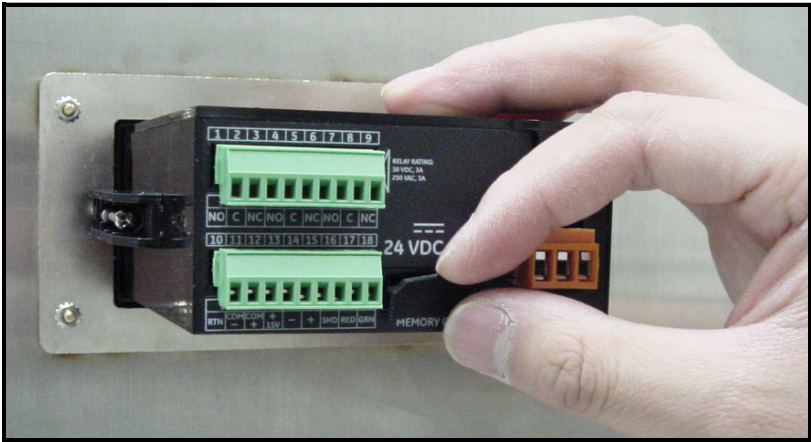
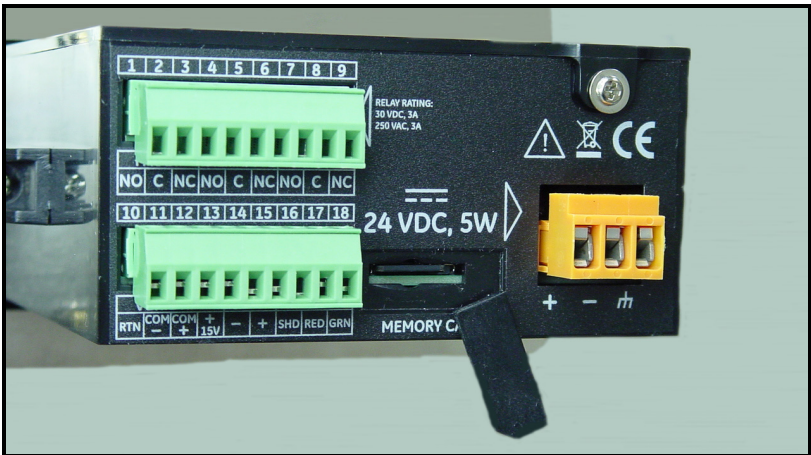

Figure 51: Pulling the Flexible Cover
Figure 52: The Opened Memory Card Holder
1. Locate the memory card in the lower center of the rear panel and pull the flexible cover from the left. The cover hangs from the right side (see Figure 51 and Figure 52).